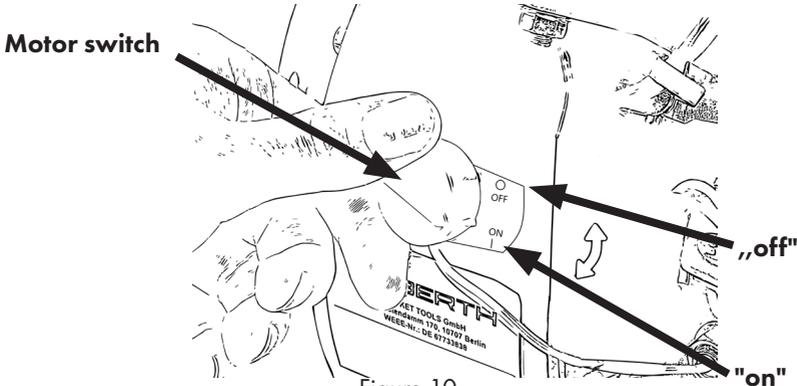

Figure 10
2. Turn the motor switch to the "ON" position. (Fig. 10)